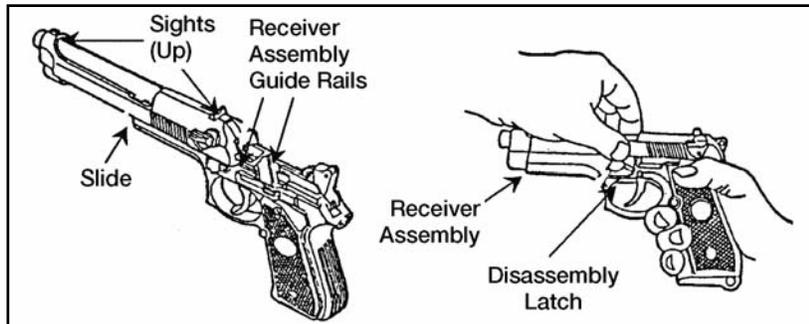

Figure 071-004-0001-8. Final assembly
g. Push until the rear of the slide is a short distance beyond the rear of the receiver assembly and hold. At the same time, rotate the disassembly latch upward. A click indicates a positive lock (figure 071-004-0001-8).
(1) Insert the follower into the top coil of the magazine spring. Make sure the notches on the follower and magazine tube are on the same side.